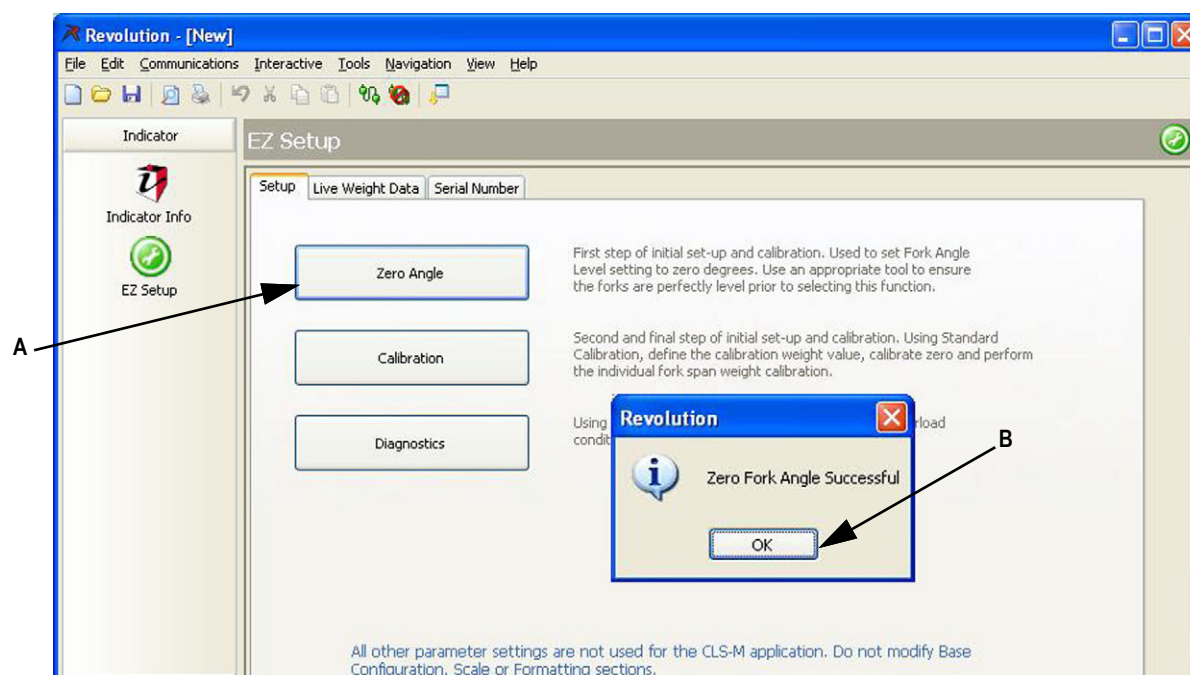

Figure 5-60. Zero Forks
2. In the setup screen, press Zero Angle (Fig 5-60 A).
3. A pop-up appears as shown in (Fig 5-60 B), press OK to close pop-up box.